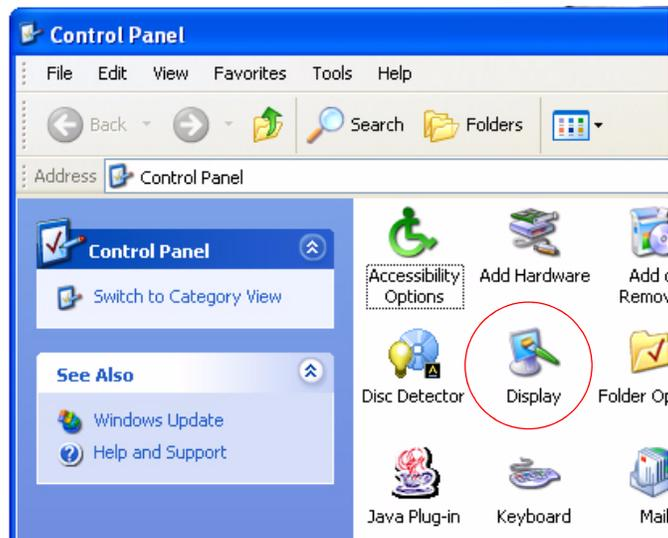
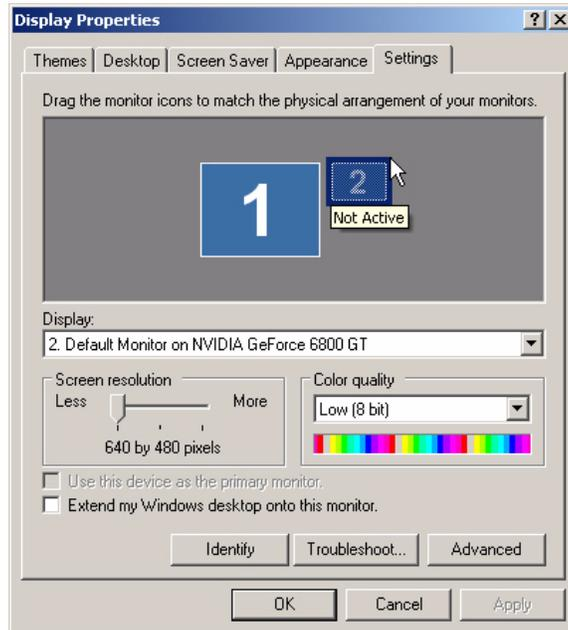

Figure 5-2. Windows XP control panel
Figure 5-3. Settings menu *before* configuring software for TV display
- Double-click the **Display** icon, circled in Figure 5-2. The menu pictured in Figure 5-3 appears. The **2** icon on the right side of the display indicates that the card senses the connection of a second monitor; the “Not Active” tool tip shows that that monitor has not yet been configured.
- Important: Drag the Display Properties window pictured in Figure 5-3 to the center of the Desktop. This is a necessary part of the actions you will take to properly center the re-sized Desktop image on your monitor.